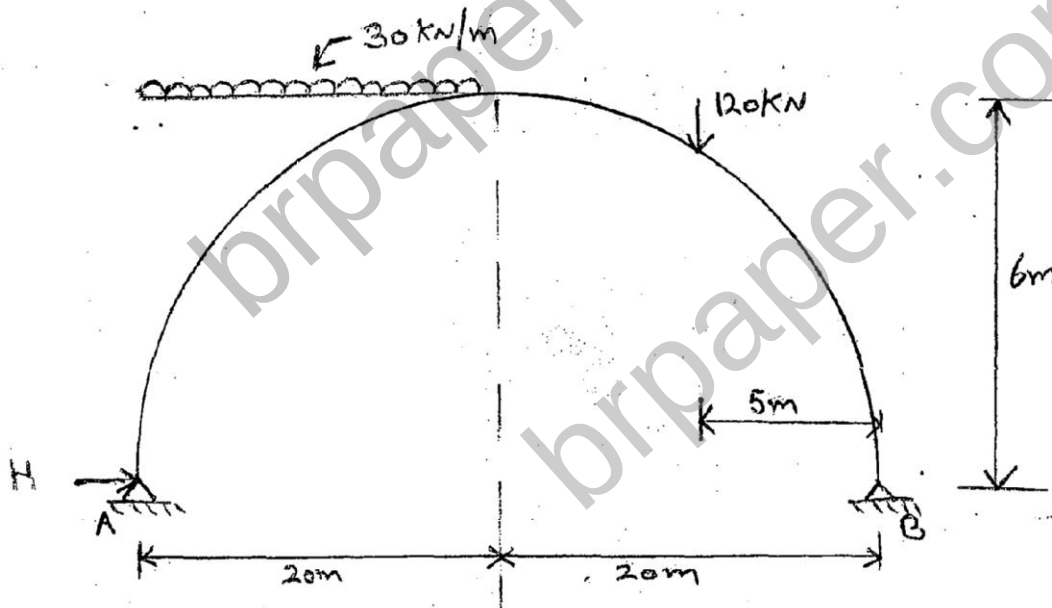

Fig.5
6. A two- hinged parabolic arch is loaded as shown in figure 5 Determine the a) Horizontal thrust b) Maximum positive and negative moments c) shear force and normal thrust at 10 m from the left support.